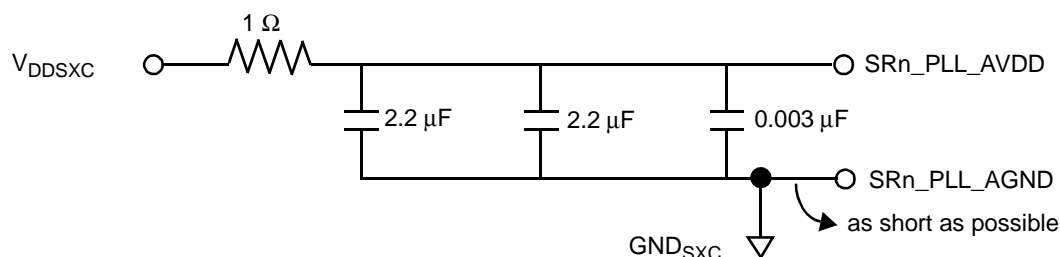

Figure 38. SerDes PLL Supplies
- Couple inputs SR1_PLL_AVDD and SR2_PLL_AVDD with SXCVDD1 and SXCVDD2 power rails, respectively, using an RC filter (see Figure 38).
Each SerDes PLL power supply must be filtered using a circuit similar to the one shown in Figure 38, to ensure stability of the internal clock. For maximum effectiveness, the filter circuit should be placed as closely as possible to the SRn_PLL_AVDD ball to ensure it filters out as much noise as possible. The ground connection should be near the SRn_PLL_AVDD ball. The $0.003\ \mu\text{F}$ capacitor is closest to the ball, followed by the two $2.2\ \mu\text{F}$ capacitors, and finally the $1\ \Omega$ resistor to the board supply plane. The capacitors are connected from SRn_PLL_AVDD to the ground plane. Use ceramic chip capacitors with the highest possible self-resonant frequency. All trances should be kept short, wide, and direct.